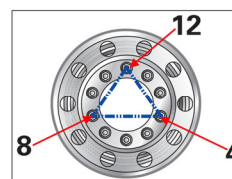

Fig.1
2. Install centering tools at 12, 4 and 8 o'clock positions (Fig. 1)